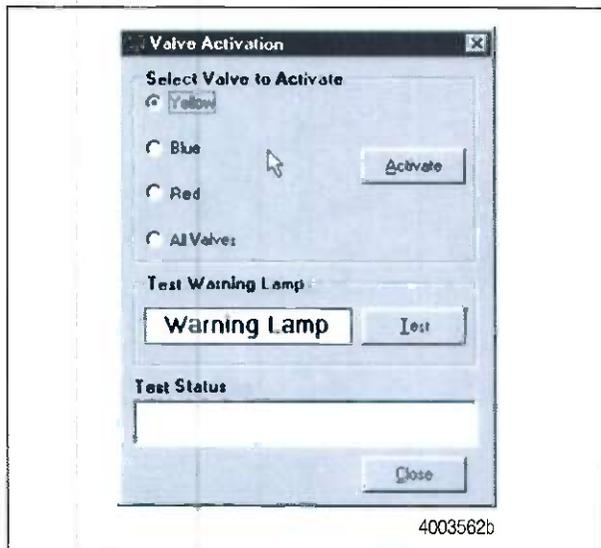

Figure 22
4. At the **Trailer Main Screen**, click on **Component Test**, then select **Valves/Lamp** to display the **Valve Activation Screen**. The **Yellow** valve indicator will be highlighted. Figure 22.
**Red:** The external relay valve designated **RED (RD)** is an axle control valve. It controls brake chambers on one or two axes. It is important that delivery lines from Port 2 are plumbed as shown on the installation drawings. The 4S/3M system is designed to be used with a variety of trailer configurations. Call ArvinMeritor's Customer Service Center at 800-535-5560 for additional information.
9. Click on the **Test** button to activate the ABS indicator lamp — this is the lamp that is mounted on the side of the trailer. The lamp will flash eight times, indicating lamp installation is OK. The **Test Status** box at the bottom of the menu will display the status of this test. Figure 22.